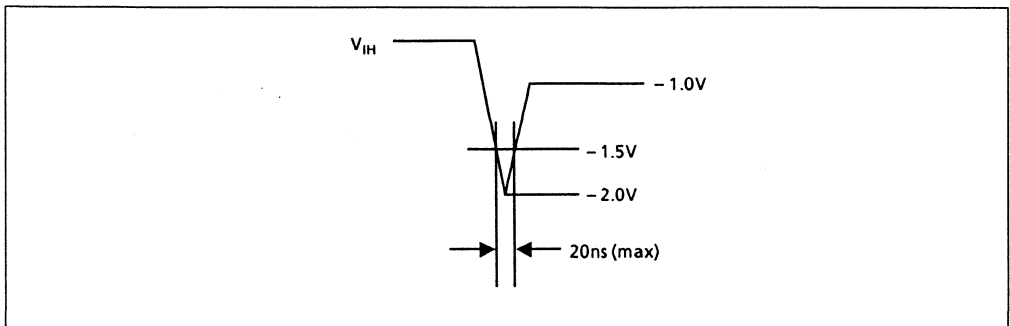

Figure 1 Undershoot of input voltage
2. The device will withstand undershoots to the -2 V level with a maximum pulse width of 20 ns at the -1.5 V level. (See figure 1.)